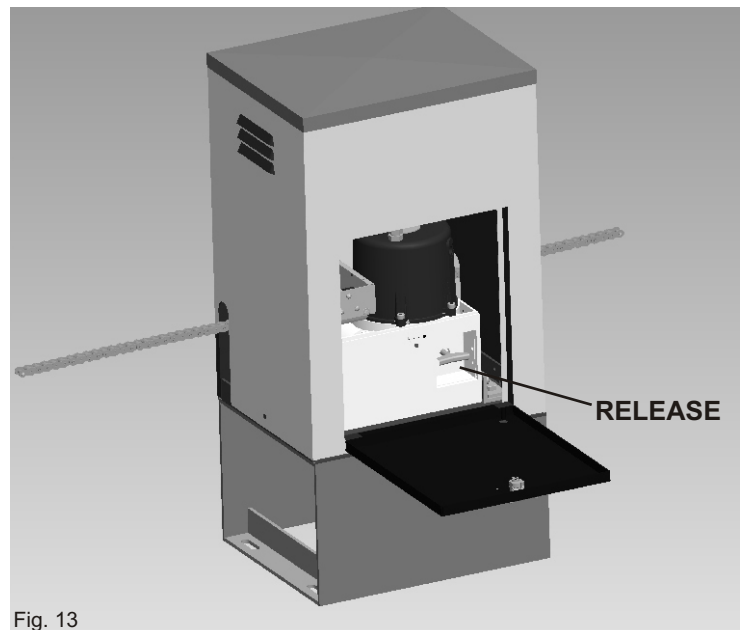

Fig. 13
- put the key in and turn it to open the door which protects the plastic handle (Fig. 13)